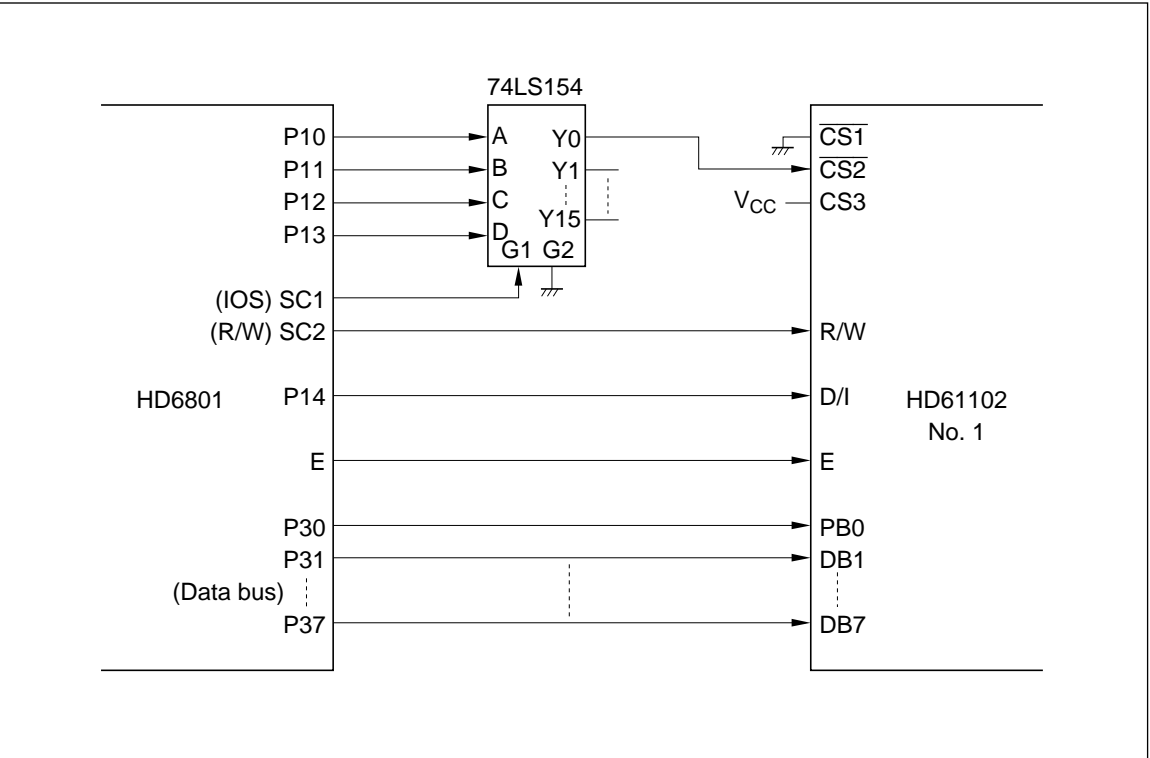

Figure 8 Example of Connection with HD6801
- Set HD6801 to mode 5. P10 to P14 are used as the output port and P30 to P37 as the data bus (figure 8).